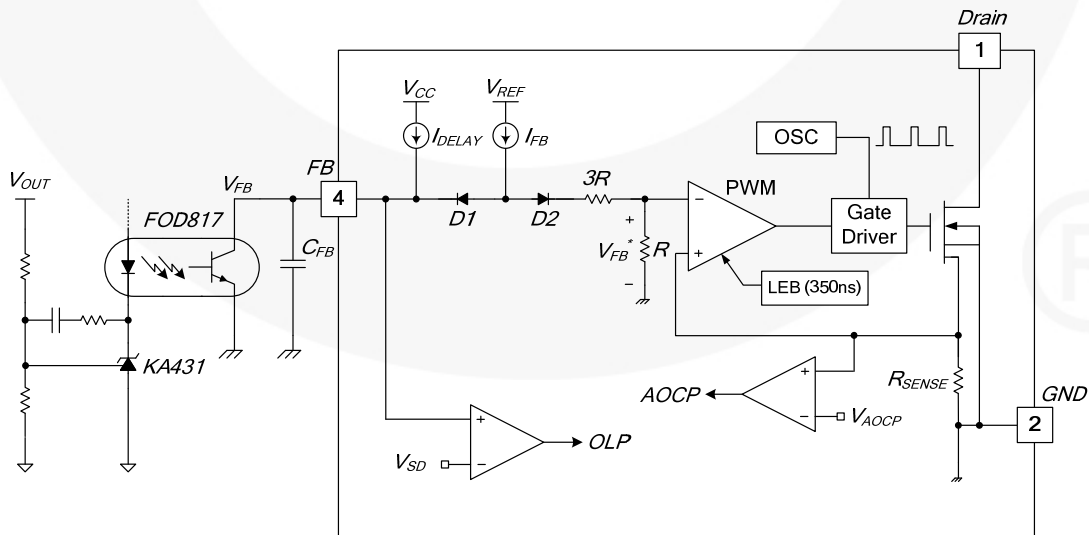

Figure 18. Pulse Width Modulation Circuit
3. Feedback Control: This device employs Current-Mode control, as shown in Figure 18. An opto-coupler (such as the FOD817) and shunt regulator (such as the KA431) are typically used to implement the feedback network. Comparing the feedback voltage with the voltage across the R_{SENSE} resistor makes it possible to control the switching duty cycle. When the reference pin voltage of the shunt regulator exceeds the internal reference voltage of 2.5V, the opto-coupler LED current increases, pulling down the feedback voltage and reducing drain current. This typically occurs when the input voltage is increased or the output load is decreased.
3.1 Pulse-by-Pulse Current Limit: Because Current-Mode control is employed, the peak current through the SenseFET is limited by the inverting input of PWM comparator (V_{FB}^*), as shown in Figure 18. Assuming that the $90\mu\text{A}$ current source flows only through the internal resistor ($3R + R = 27k\Omega$), the cathode voltage of diode D2 is about 2.4V. Since D1 is blocked when the feedback voltage (V_{FB}) exceeds 2.4V, the maximum voltage of the cathode of D2 is clamped at this voltage. Therefore, the peak value of the current through the SenseFET is limited.